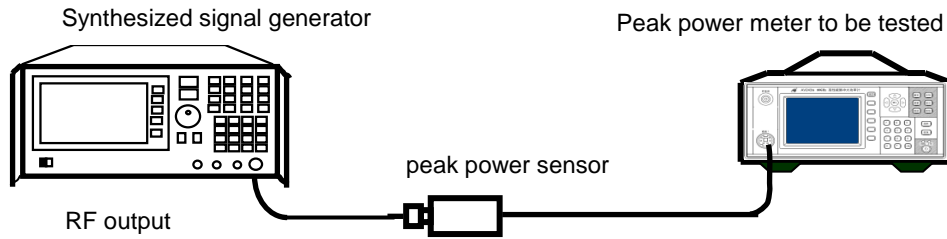

Fig. 8.9 Peak Power Sensor Rising Time Test Block Diagram
- 1) Power on the instrument, warm it up for at least 30 min, calibrate the microwave power meter connected to a 8170X peak power sensor automatically, and then connect the device as shown in Fig. 8.9.